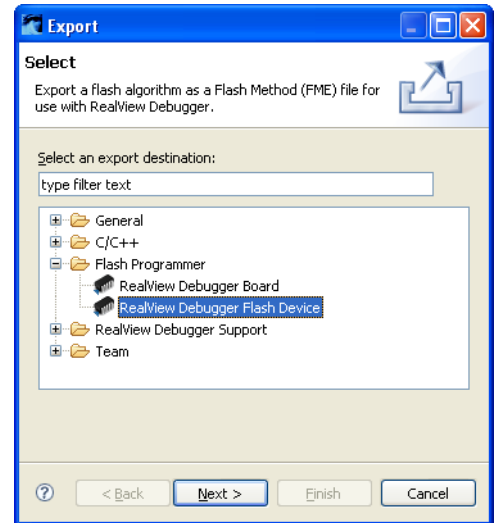

Figure 6-18 Export flash device to RealView Debugger
1. Select **Export...** from the **File** menu and then select **Flash Programmer** → **RealView Debugger Flash Device**, see Figure 6-18. Click on **Next**.